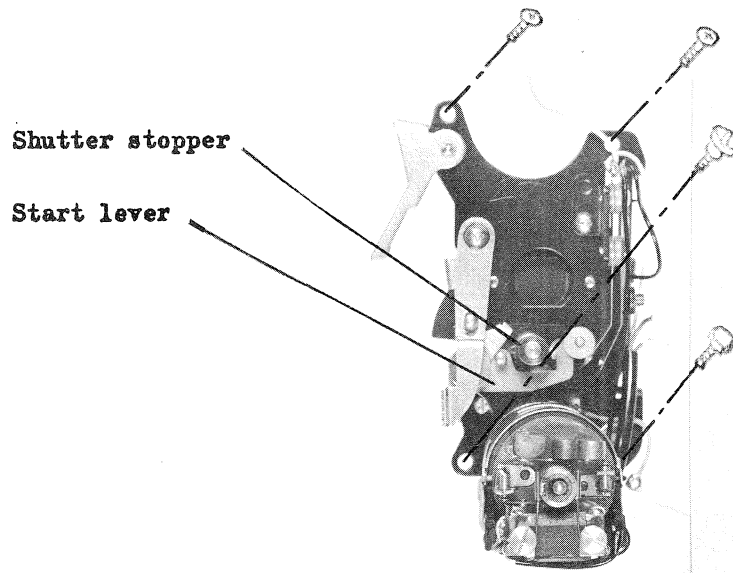

Fig. 44
First, fit the motor mounting plate on the frame with four screws (1, 2, 3 & 4 in Fig. 44). Connect the volt/milliampere meter with the motor.
- 10-1-1. Manually turn the motor governor in Fig. 44 in the anti-clockwise direction up to the position where the shutter stopper comes to a halt in contact with the shutter lever.